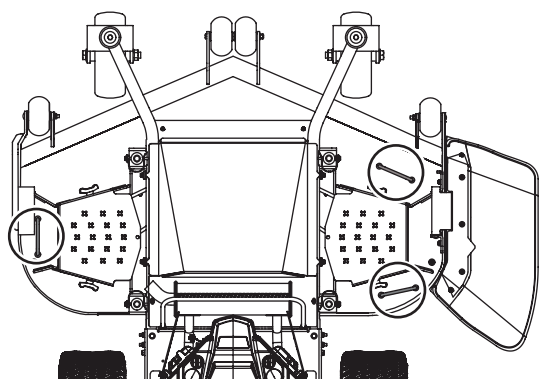
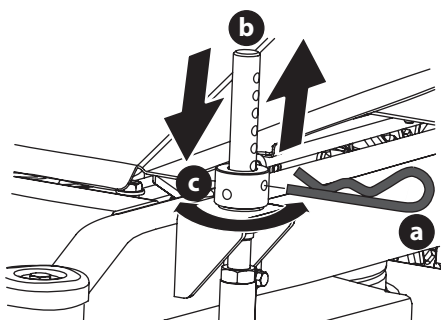

Figure 5
Figure 6
1. Securely grasp one of the three handles on the deck (see Figure 5 for location) and lift slightly to remove the cotter pin (a) (Figure 6).
2. Raise or lower the deck on the deck adjustment pin (b) and in combination with the deck lift adjustment collar (c), find the desired height (Figure 6).
3. Insert the cotter pin (a) back into the deck adjustment pin (b) at the desired position (Figure 6).